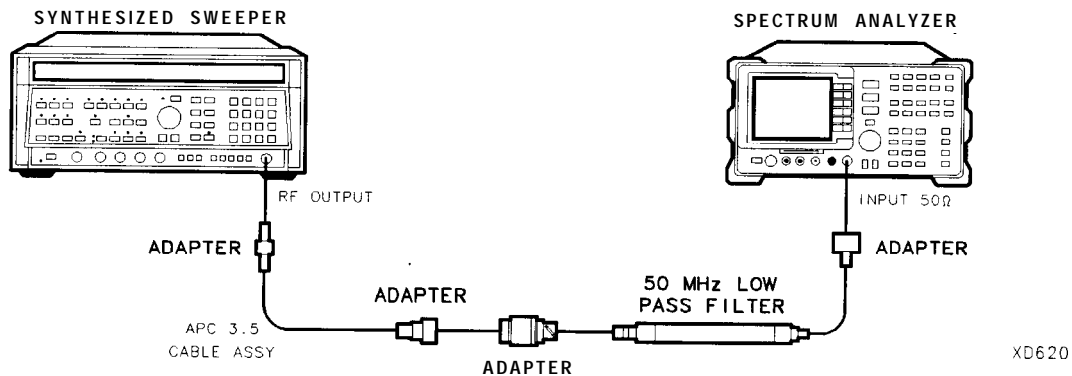

Figure 2-52. Second Harmonic Distortion Test Setup
2. Connect the equipment as shown in Figure 2-52.